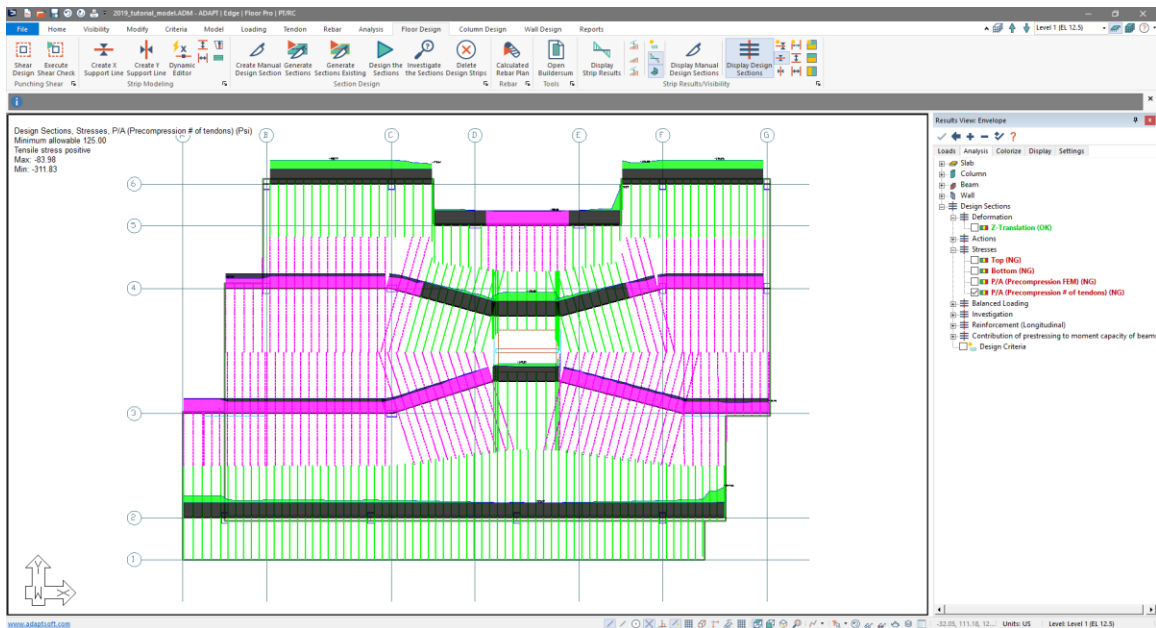

Figure 9-82
- The user should now see the precompression values along the X-direction support lines as shown in **FIGURE 9-82**.